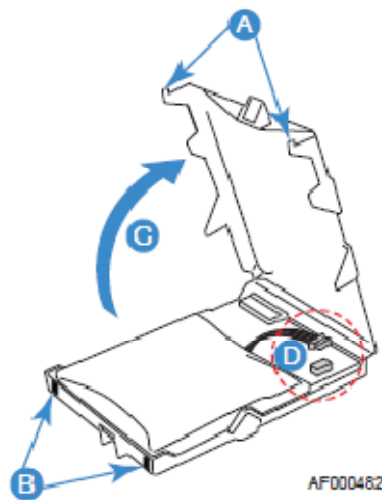

FIGURE 3 –Inside the Clamshell
1. Locate the closure tabs on the clamshell. For the location of the closure tabs (see letters "A" and "B" in Figure 3). The clamshell is designed to close securely to ensure that the battery is secure. Due to this design, the clamshell can be difficult to open.
3. Open the Battery Pack clamshell (see letter "C" in Figure 3)
4. Check to see that the wire from the battery is connected to the circuit board. If it is not, connect the wire from the battery to the circuit board (see letter "D" in Figure 3).